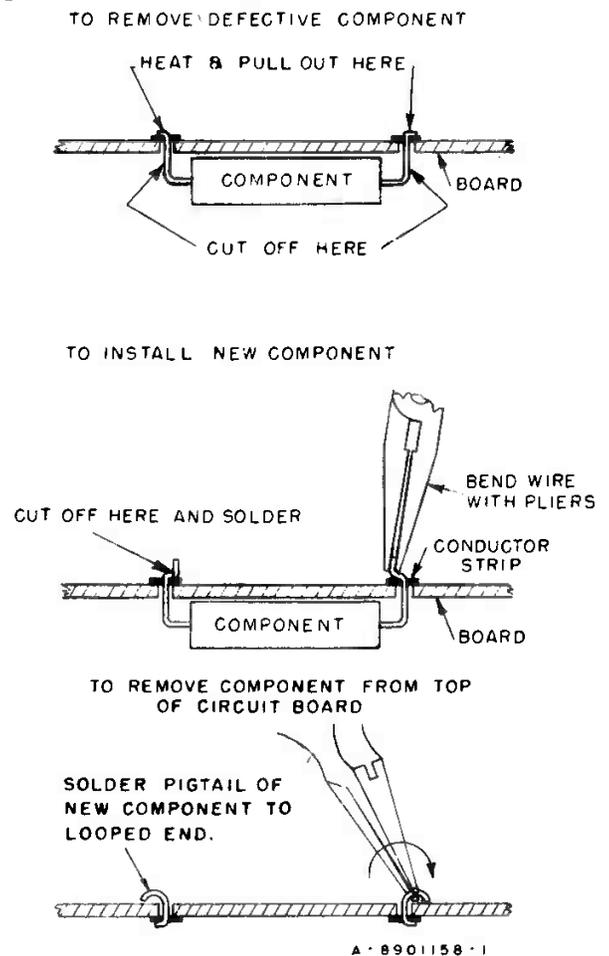

Figure 19—Replacement of Components in Printed Circuits
b. Using long nose pliers, form a loop of the lead ends as shown in figure 19.
c. To remove the defective component, snip the leads off at the component side of the board. See figure 19.
g. Crimp the wire tightly against the board (see figure 19), and cut off the excess component lead. Leave about 1/16 inch of wire protruding from the edge of the hole.